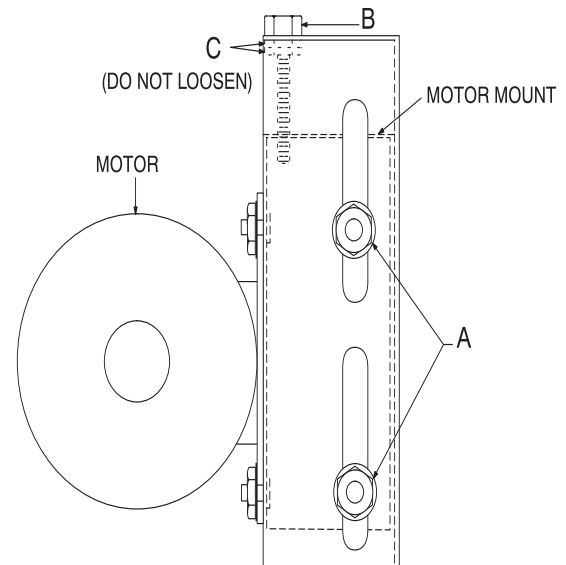

FIGURE 10 - TYPICAL MOTOR MOUNTING ASSEMBLY
3. The tension on the belt should be adjusted for a deflection of $3/16$ of an inch per foot of belt span with an applied force of 2 to 3 pounds. This adjustment is made by moving the blower motor mounting plate. Refer to Figure 10. Turning the adjustment bolt (B) moves the motor mounting